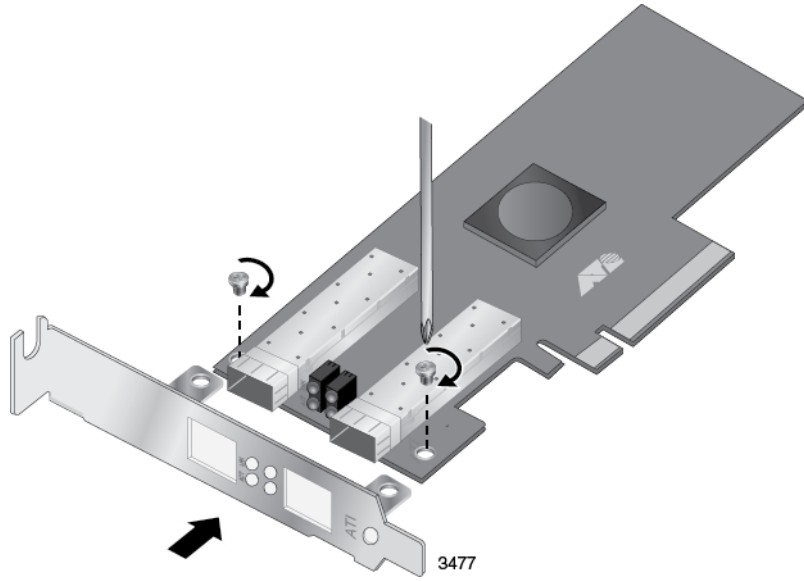

Figure 5. Installing the Standard Bracket
2. Fit the standard bracket onto the adapter as shown in Figure 5 on page 29 and secure with the two screws.